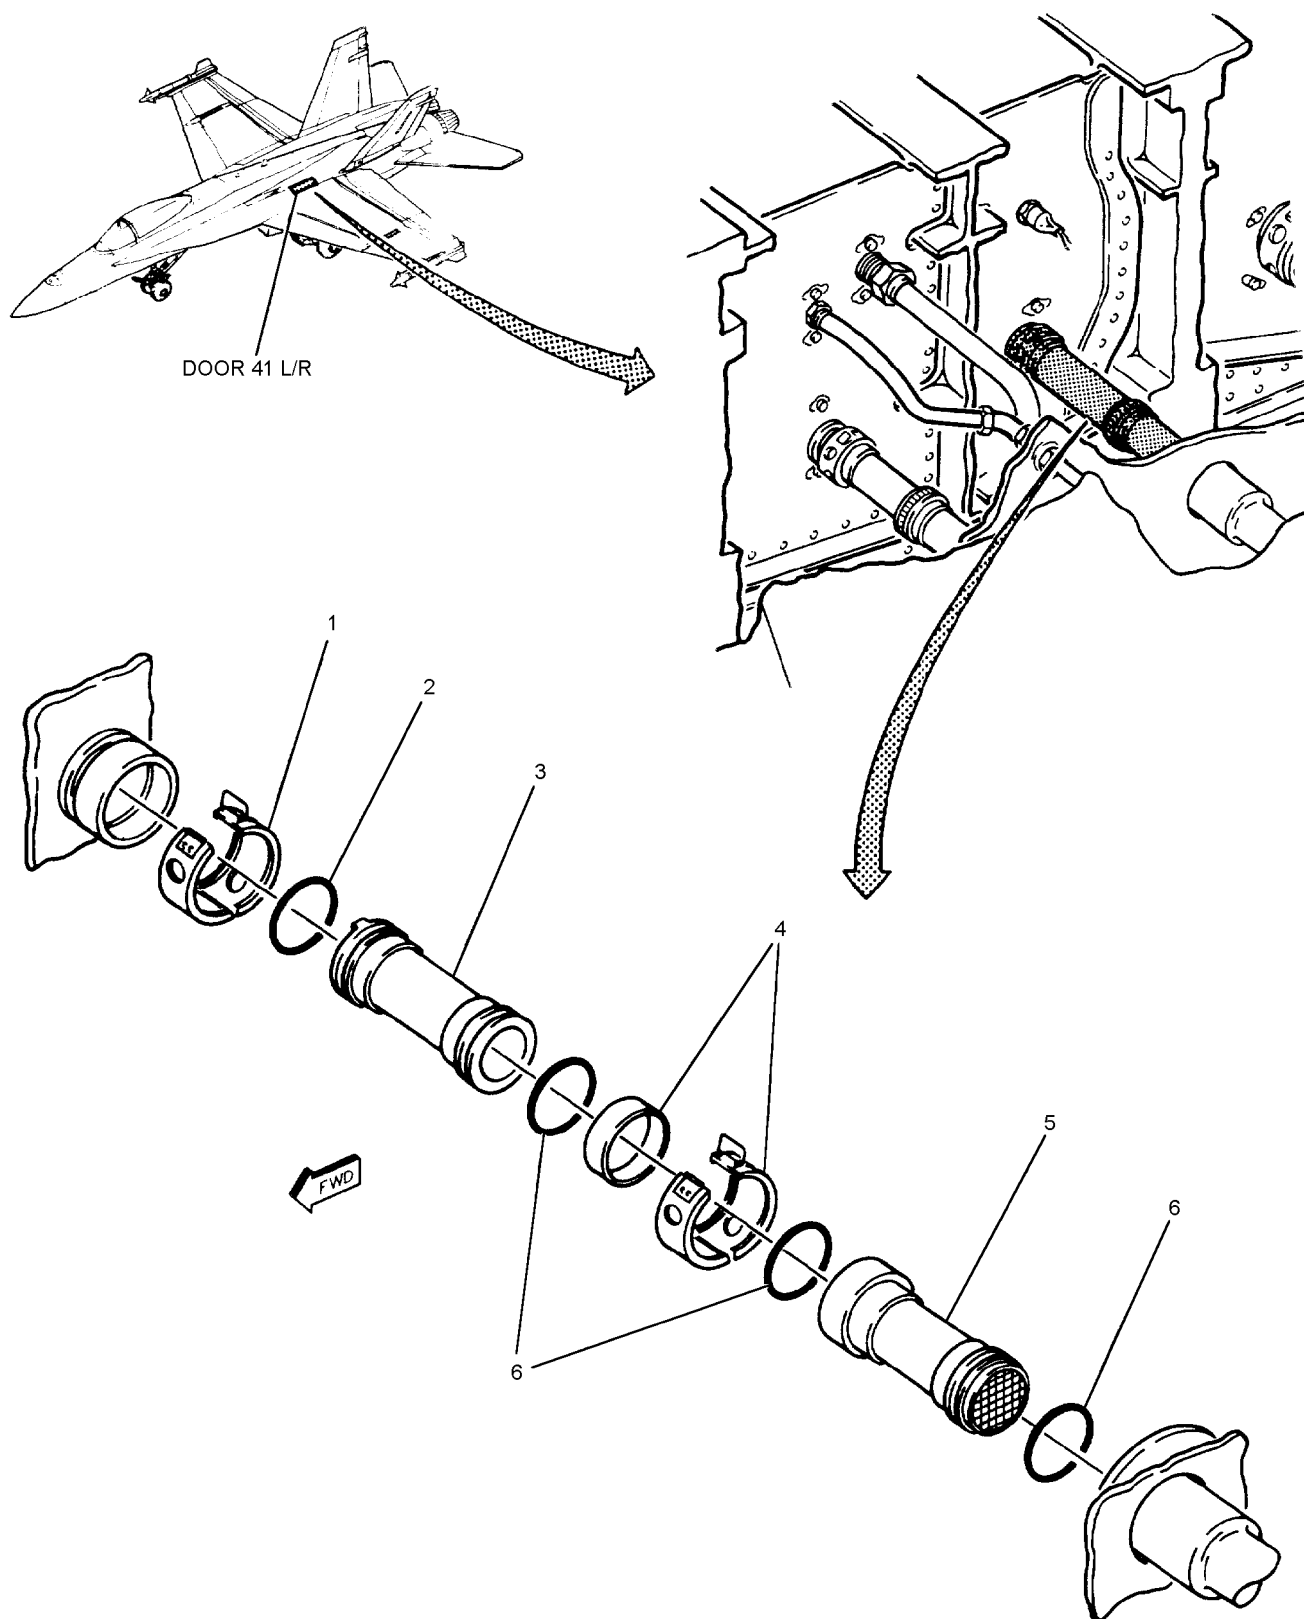

Figure 1. Fuel Transfer Tube and Strainer (5FAU681 or 5FAV682) (Sheet 1)
- b. Lubricate new packings (2 and 6, figure 1) with petrolatum.
- d. Install tube (5).
- e. Install tube (3) and couplings (1 and 4).
- f. Inspect and install couplings (1 and 4) if applicable, safety couplings (1 and 4) with lockwire per WP013 00. (QA)
- g. Inspect for and remove any foreign objects in work area, then install door 41L/R (A1-F18AC-LMM-010). (QA)